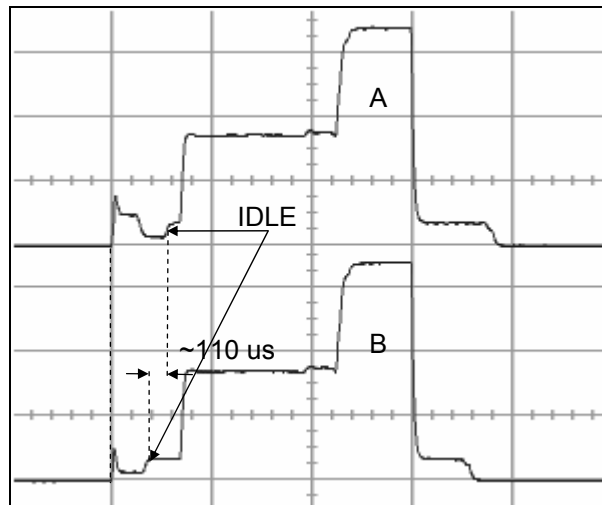

Figure 10. MCSM0.XOSC_FORCE_ON = 1
It is possible to keep the crystal on during SLEEP mode (`MCSM0.XOSC_FORCE_ON = 1`) to be able to reduce t_{Event1} , but this will cause the current consumption in SLEEP mode to increase significantly (see [1] and [2]). Figure 10 shows the current consumption when the crystal is turned off in SLEEP mode (A) and when the crystal is kept on (B). It is not possible to observe the difference in SLEEP current due to the resolution of the y-axis, but in the case where the crystal is running, one can see that the chip is ready and in IDLE mode about 110 μs earlier than what is the case if the crystal oscillator has been turned off. In the case where the crystal oscillator is running in SLEEP mode, it can be seen that the radio returns to SLEEP earlier than what is the case when XOSC is turned off. This is due to the fact that the calibration of the RC oscillator (see 3.2.3) starts earlier and thus finishes of sooner.